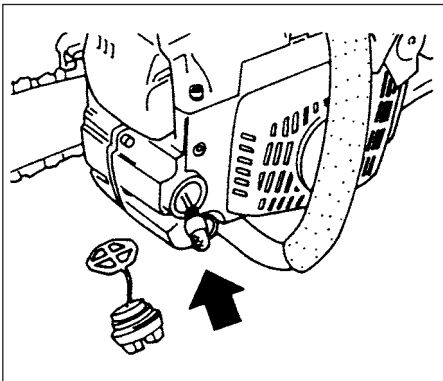

Fig.3-8
**Chain oil filter (Fig. 3-8)**